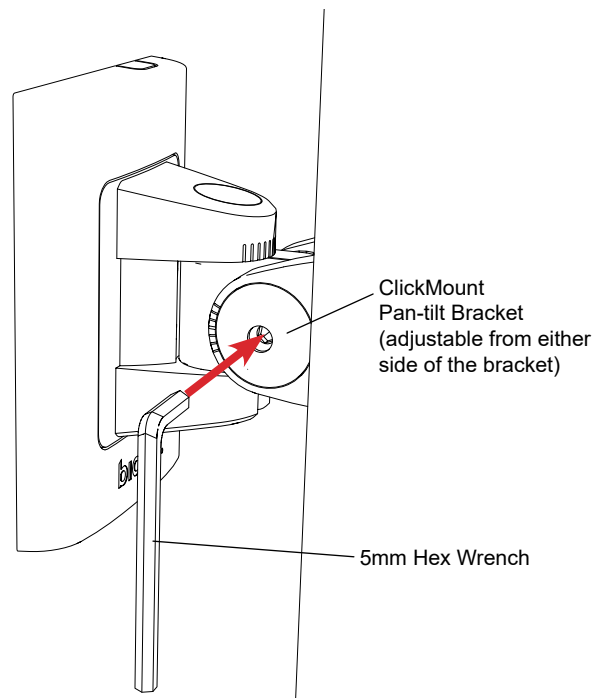

Figure 7. Insert and turn hex wrench to loosen or tighten the bracket to adjust the aiming angle
- Insert a 5mm hex wrench into the bracket as shown (Figure 7) and loosen. The adjustment mechanism can be accessed from either side of the bracket.